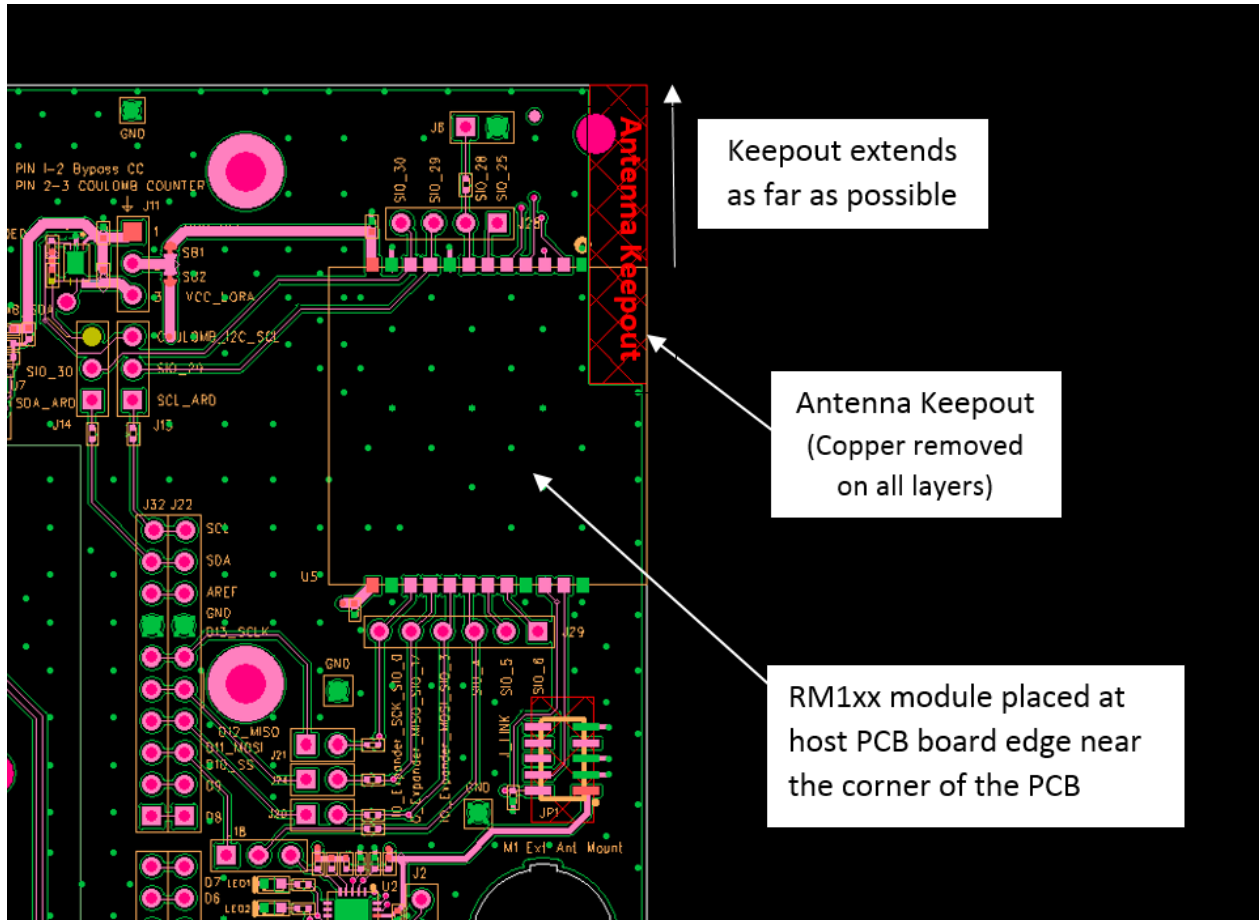

Figure 6: Antenna keepout on DVK-RM1xx PCB (shown in red) with RM1xx module placed near the corner.
- The RM1xx development board has the RM1xx module on the edge of the board (not in the corner). The antenna keep-out area is defined by the RM1xx development board which was used for module development and antenna performance evaluation is shown in Figure 6, where the antenna keep-out area is composed of PCB dielectric (no copper) sitting under the RM1xx antenna.
- The antenna-keep-out defined in Host PCB Land Pattern and Antenna Keepout applies when the RM1xx is placed in the corner of the host PCB. When RM1xx-SM cannot be placed as such, it must be placed on the edge of the host PCB and the antenna keep out must be observed. An example is shown in Figure 6.